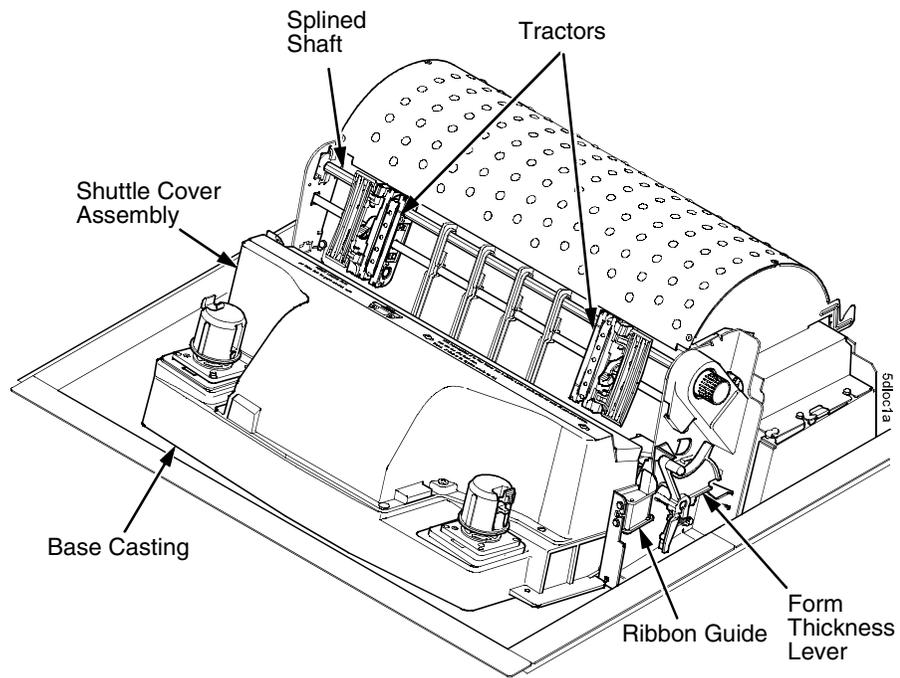

Figure 4. Cleaning Inside the Cabinet or Top Cover
7. Using a soft-bristled, non-metallic brush (such as a toothbrush), brush paper dust and ribbon lint off the tractors, shuttle cover assembly, base casting, and ribbon guides. Vacuum up the residue. (See Figure 4.)